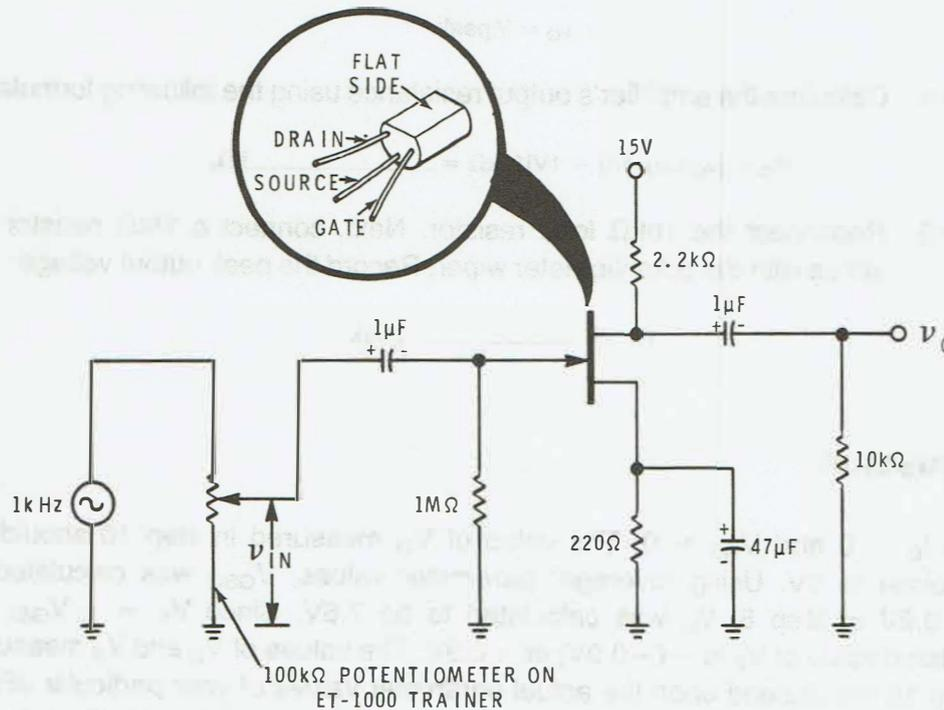

Figure E12-2
- With the power off, construct the circuit shown in Figure E12-2. Be careful to observe the correct polarity for the electrolytic capacitors. Also, note the lead connections for the JFET.